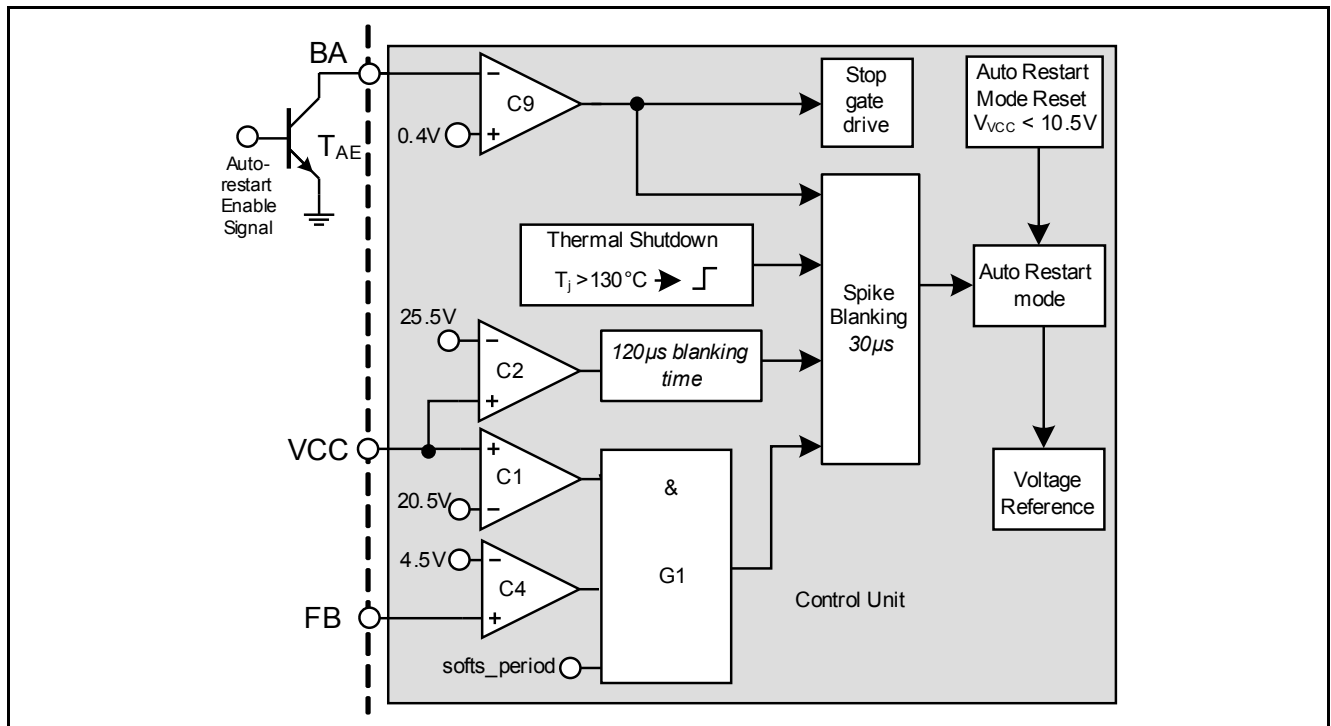

Figure 28 Vcc OVP, OTP, External Protection Enable
Vcc OVP (1) condition is when V_{VCC} voltage is $> 20.5\text{ V}$, V_{FB} voltage is $> 4.5\text{ V}$ and during the soft start period, the IC enters into odd skip auto restart mode. This condition likely happens during start-up on an open loop fault (Figure 28).
Vcc OVP (2) condition is when V_{VCC} voltage is $> 25.5\text{ V}$, the IC enters into odd skip auto restart mode (Figure 28). The overtemperature protection OTP is sensed inside the controller IC. The Thermal Shutdown block keeps on monitoring the junction temperature of the controller. After detecting a junction temperature higher than $130\text{ }^\circ\text{C}$, the IC will enter into the nonswitch auto restart mode. The IC is also implemented with a $50\text{ }^\circ\text{C}$ hysteresis. This means the IC can only be recovered when the controller junction temperature is dropped $50\text{ }^\circ\text{C}$ lower than the overtemperature trigger point (Figure 28).
external transistor, T_{AE} at the BA pin. When this function is enabled, it will enter into the nonswitch auto restart mode. The gate drive is stopped and there is no switching pulse before it is recovered (Figure 28).